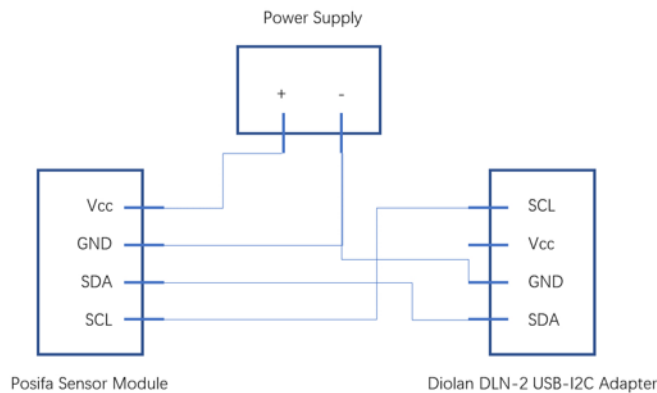

Figure 2
- Ensure that PMF sensor is powered from a power supply, and the ground pins of PMF sensor and the adapter board are connected to the ground of the power supply (Figure 2)